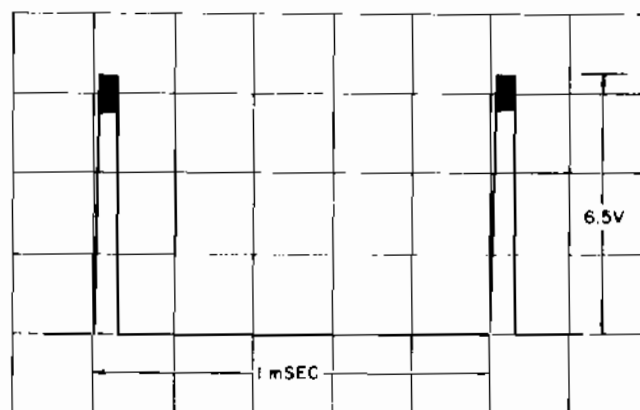

FIGURE 6.19 - WAVEFORM AT
s. Compare the waveform and amplitude at the side of R57 connected to the emitter of Q19 with that in figure 6.19.